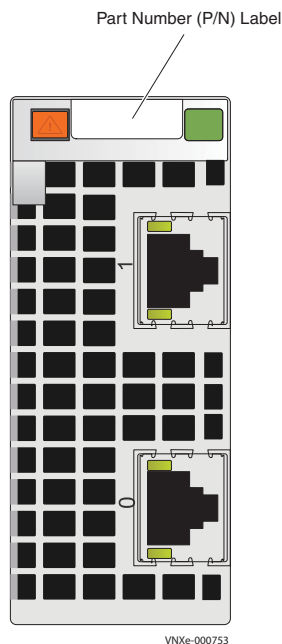

Figure 24 Example of the two-port 10-Gb/s RJ-45 Base-T iSCSI/IP I/O module
4. This part is not shown in the example Data Mover enclosure illustration in Figure 18 on page 19. For a closer view, go to Figure 24 on page 27.